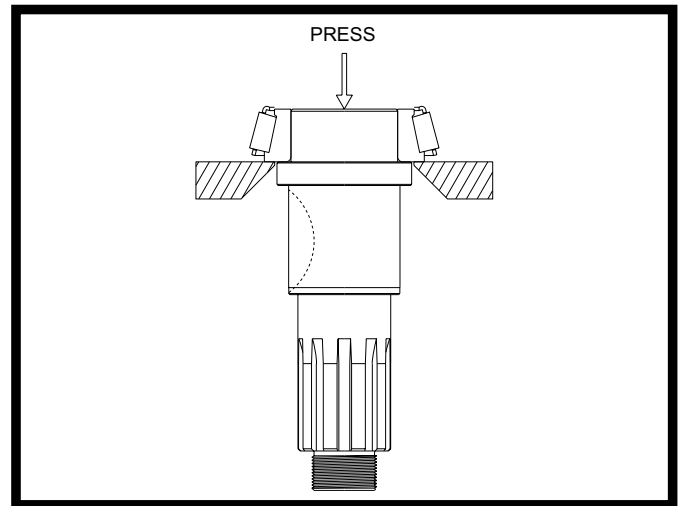

Fig 16
4. To remove the rear bearing cone assembly, support under the cone with a bearing separator and press the shaft through the cone. See Figure 16. Remove the shaft key only if necessary.